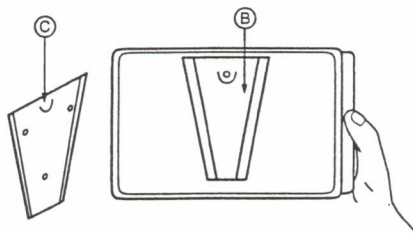

FIGURE 2
3. Position dispenser so that edges of back plate (B) fit into grooves of wall plate and then press dispenser down into place (see Figure 2).
4. Tighten locking-screw against washer. Dispenser locks into place when point of locking-screw is lodged under lug (C) of wall plate (see Figure 2).